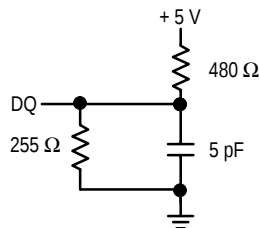

Figure 1B
6. Transition is measured ± 500 mV from steady-state voltage with output load of Figure 1B. This parameter is sampled and not 100% tested.
4. Transition is measured ± 500 mV from steady-state voltage with output load of Figure 1B. This parameter is sampled and not 100% tested. At any given voltage and temperature, t_{KHQZ} is less than t_{KHQX} for a given device.
6. Transition is measured ± 500 mV from steady-state voltage with output load of Figure 1B. This parameter is sampled and not 100% tested. At any given voltage and temperature, t_{KHQZ} is less than t_{KHQX} , t_{POEHQZ} is less than t_{POELQX} for a given device, and t_{SOEHQZ} is less than t_{SOELQX} for a given device.
3. Transition is measured ± 500 mV from steady-state voltage with output load of Figure 1B. This parameter is sampled and not 100% tested. At any given voltage and temperature, t_{POEHQZ} is less than t_{POELQX}, t_{SOEHQZ} is less than t_{SOELQX}, and t_{KHQZ} is less than t_{KHQX} for a given device.